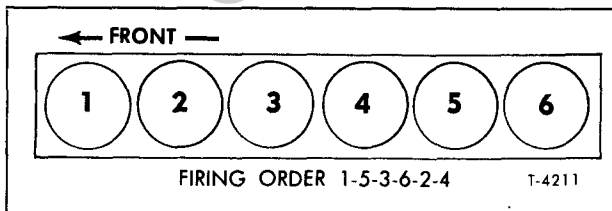
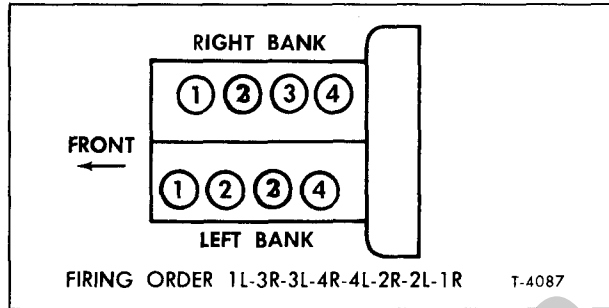
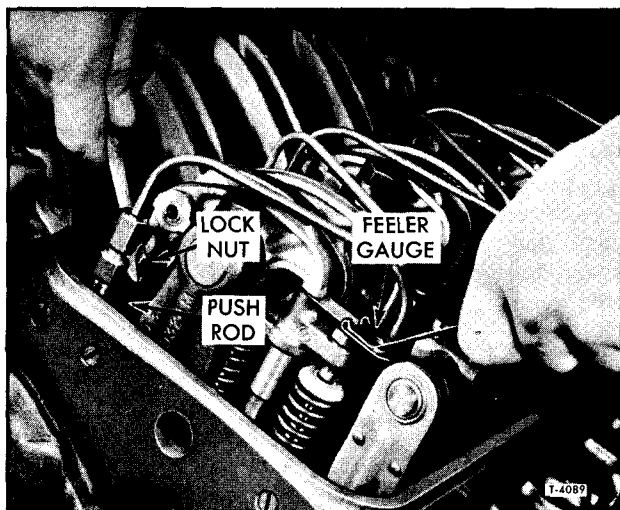
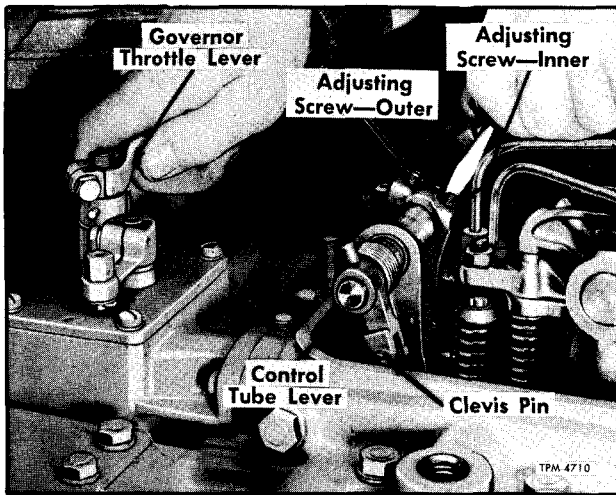

Figure 3—Cylinder Numbering and Firing Order (In-Line 6 Cylinder Engine)
Figure 4—Cylinder Numbering and Firing Order (8V-71 Engine)
Figure 5—Adjusting Valve Clearance (Typical)
Figure 10—Injector Control Rack Adjustment (In-Line Engine)
(figs. 3 and 4). When the cylinder head has been installed valve lash adjustment must always be made with the engine COLD. This setting should result in proper clearance at normal engine operating temperature. Use a 0.017-inch feeler gauge (J-9708) between the valve bridge and rocker arm as shown in figure 5, if engine is cold or use 0.015-inch feeler gauge if engine is hot.
5. When engine is cold place 0.017" feeler gauge (fig. 5) between bridge and rocker arm. Adjust push rod to obtain a smooth "pull" on the feeler gauge.
NOTE: Refer to figure 3 or 4 for cylinder numbers.
e. Move the speed control lever to the maximum speed position; hold it in that position with light finger pressure. Turn the inner adjusting screw on the No. 1 cylinder (fig. 3) on In-line engines and No. 1L cylinder (fig. 4) on V8 engines injector rack control down as shown in figure 10 or 11, until a slight movement of the control tube lever is observed or a step-up in effort to turn the screwdriver is noted. This will place No. 1 or 1L injector in the "FULL-FUEL" position. Turn down